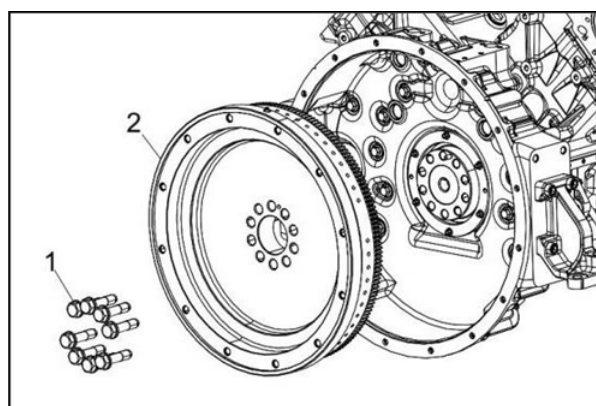

Figure 141.
10. Apply a film of oil to the threads and under the head of the flywheel fixing bolts (Figure 141, item 1).